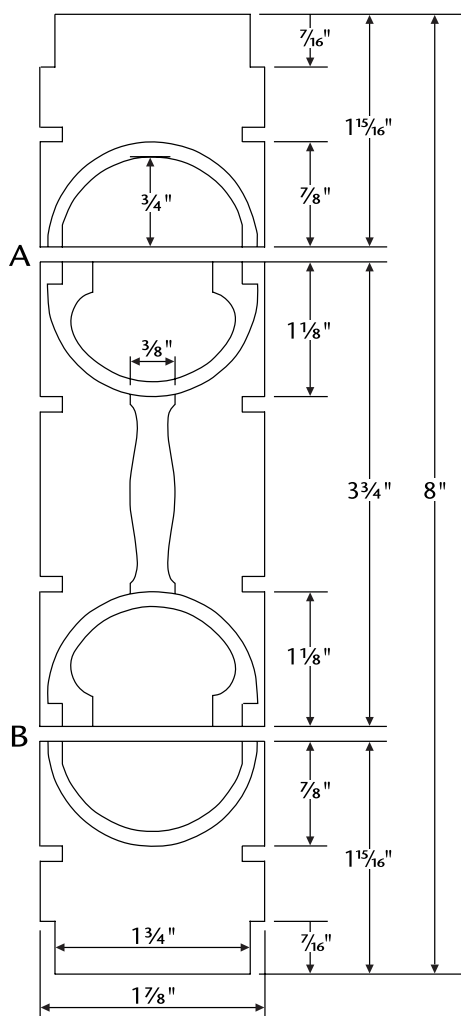

Figure 1. Dimensions and cut lines (A and B) for the baby rattle.
Part off at "A" (*Figure 1*), leaving  $1\frac{1}{2}$ " (38 mm) extending from the chuck (*Photo 2*). Set aside the length just parted off. This cylinder, approximately  $5\frac{7}{8}$ " (150 mm) long, will form the other portion of the rattle.
Make a mark on the outside of the cylinder at the  $\frac{3}{4}$ " (19 mm) depth, plus  $\frac{3}{16}$ " (5 mm) (*Figure 1*). That mark helps to establish the diameter and shape of the outside of the lid/hemisphere.
**16** Part off the cylinder at the point where you marked "B" from *Figure 1*. Hollow and form the section left in the chuck (the second lid), as you did for the first lid. Remove from the lathe.
From the end of the straight wall, hollow  $\frac{3}{4}$ " (19 mm) deep into the hemisphere. Use a scraper to undercut and blend the hollow (*Photo 15*, *Figure 1*). Measure the depth of the hollow and add a heavy  $\frac{1}{8}$ " (3 mm). Transfer this combined measurement to the outside of the cylinder. Part a shallow groove to the waste of the mark to establish the intersection of the barbell's handle (*Figure 1*), but do not part all the way through—leave plenty of wood to form the handle of the rattle.
With the lathe off, measure  $1\frac{1}{2}$ " (38 mm) from the chuck jaws and make a mark. Use that mark to part off the cylinder at "B" in *Figure 1* (*Photo 16*). Using the wood that is left in the chuck, hollow out the third hemisphere/second lid. Use the directions previously given for hollowing
Slide the tailstock forward and place the live center inside the hollow of the hemisphere just turned. Remove the tape to access the rest of the rattle. Use calipers and a parting tool to establish a  $\frac{3}{8}$ " (10 mm) diameter at the intersection of the barbells and the handle (*Photo 24*, *Figure 1*). Carefully turn the middle section to form the handle. I use a skew chisel and a spindle gouge and work carefully to form a gently curved handle (*Photo 25*). Do not turn the handle too thin; otherwise it could break.